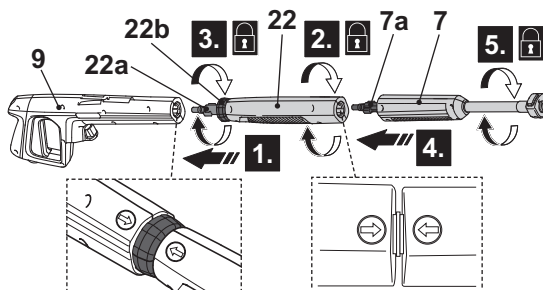

Fig. 12
1. Always attach the short extension lance (22) when using the Aquasweeper.
2. Align and insert the tongues (22a) of the short extension lance (22) into the grooves of the spray gun (9) connection port. (Fig. 12, step 1).